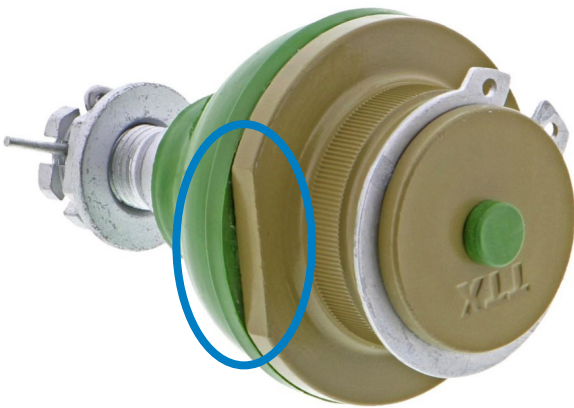

Figure 2. Machined flat on ball joint housing (circled)
- Locate machined flat on ball joint housing. **See Figure 2.**